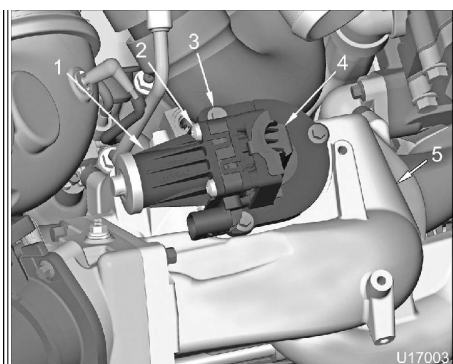

Figure 1: 2010-2013 MaxxForce 7 EGR Valve
- Item 2: T-30 Torx Screws (4)
- Item 3: M6 X 20 bolts (3)
1. Remove EGR Valve Inspection Cover (Figure 1, Item 4) by gently pulling the two cover clips on both sides of the valve outward; then gently pry up on the cover.